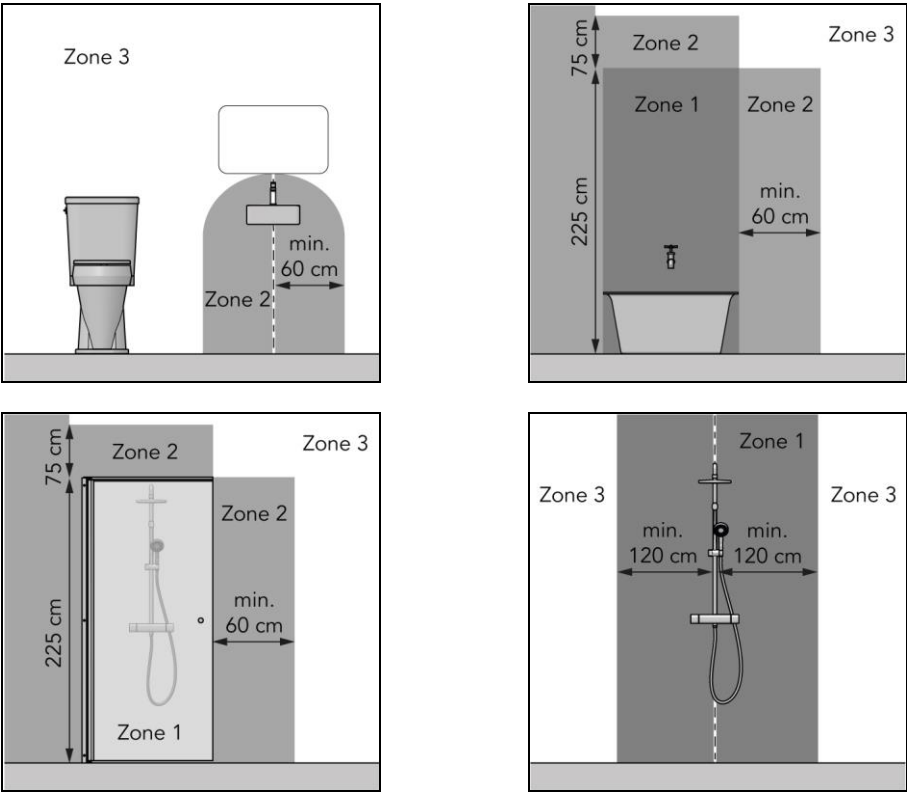

Figure 6
- in zone 3 of a toilet room or bathroom with a bath, shower with screen and shower without screen (Figure 6);